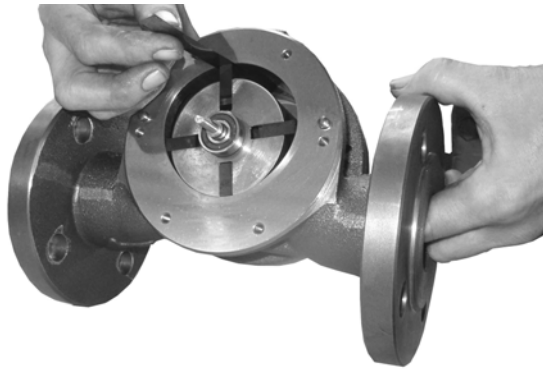

Figure 41
5. Measure the radial vane clearance with a feeler gauge. Measurement should be taken as shown in Figure 41. For correct measurement the gauge must be bottomed out in the slot. If the tolerance is in excess of the value mentioned in the table on next page, replace vane(s) or grind to size with fine emery cloth.